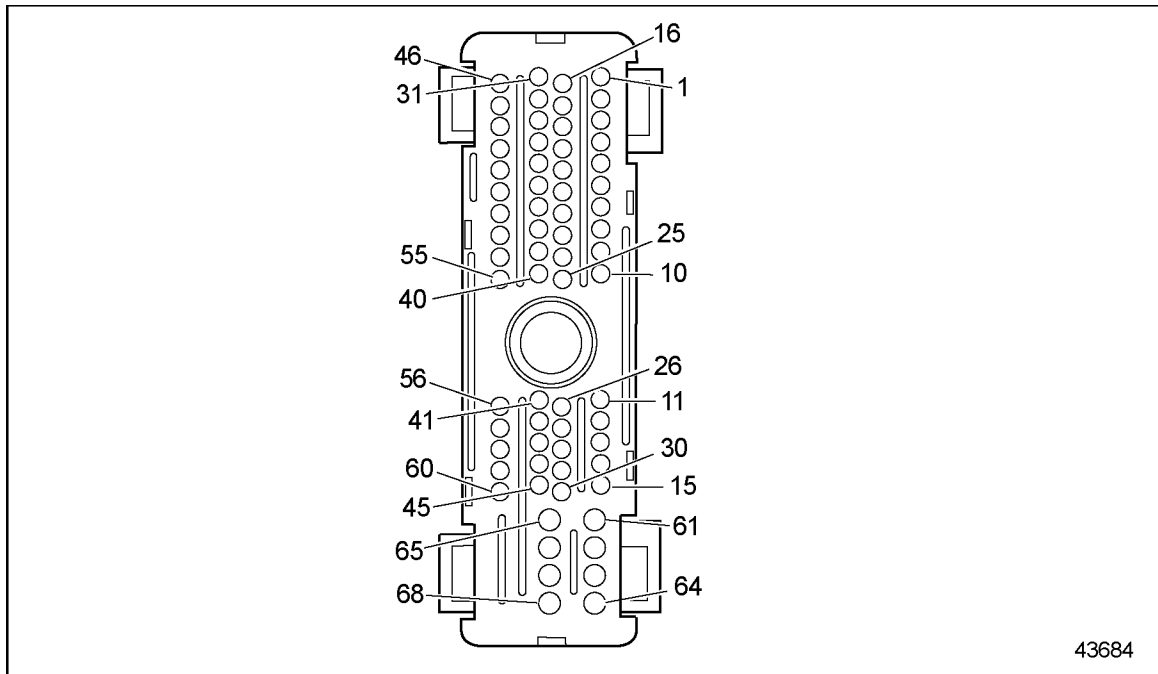

Figure 25-3 Vehicle Harness Connector
5. Inspect terminals at the vehicle harness connector (both the sensor and harness side) for bent, corroded and unseated pins or sockets. Check terminal and pin V-38 at the ECM/ECU and all terminals and pins in the CLS/ECL Sensor connector. See Figure 25-3.